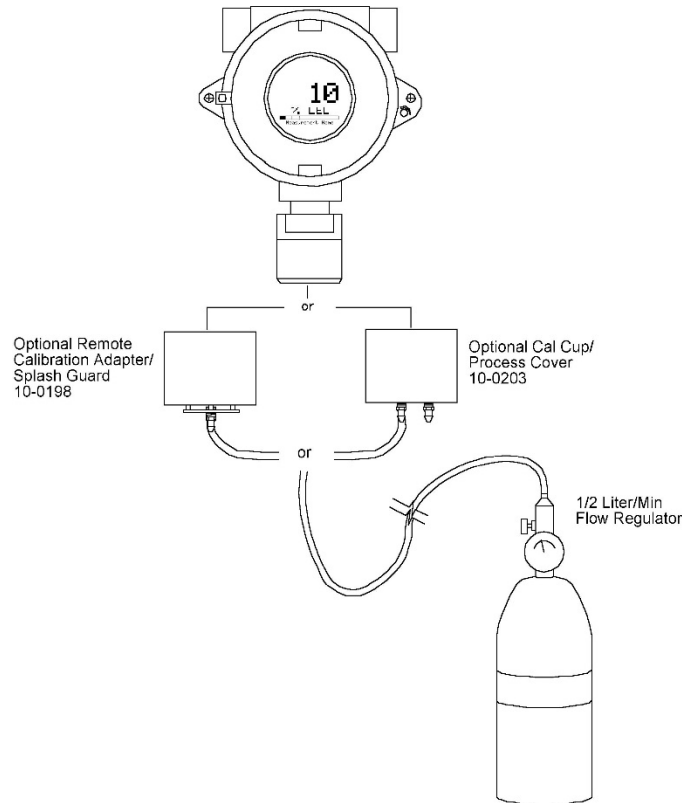

Figure 4-1 Calibration Gas Input
4. Apply a clean Zero Gas (Figure 4-1), using the Cal Cup, part number BFT10-0203, or be sure there is no background target gas in the monitored area. After the reading is stable (approximately one minute), swipe the EDIT key to Set the Zero Calibration. To skip the Zero calibration and go to the Span calibration swipe the NEXT key. When a message that the Zero calibration was completed successfully, proceed to the next step.
5. Apply the correct, as indicated, Span gas (Figure 4-1) at 0.5 liters/min. After the reading is stable (approximately one minute), swipe the EDIT key to Set the Span Calibration. To skip the Span Calibration swipe the NEXT key. When a message that the Span calibration was completed successfully, the ST-44 will exit back to the Data Display Screen.